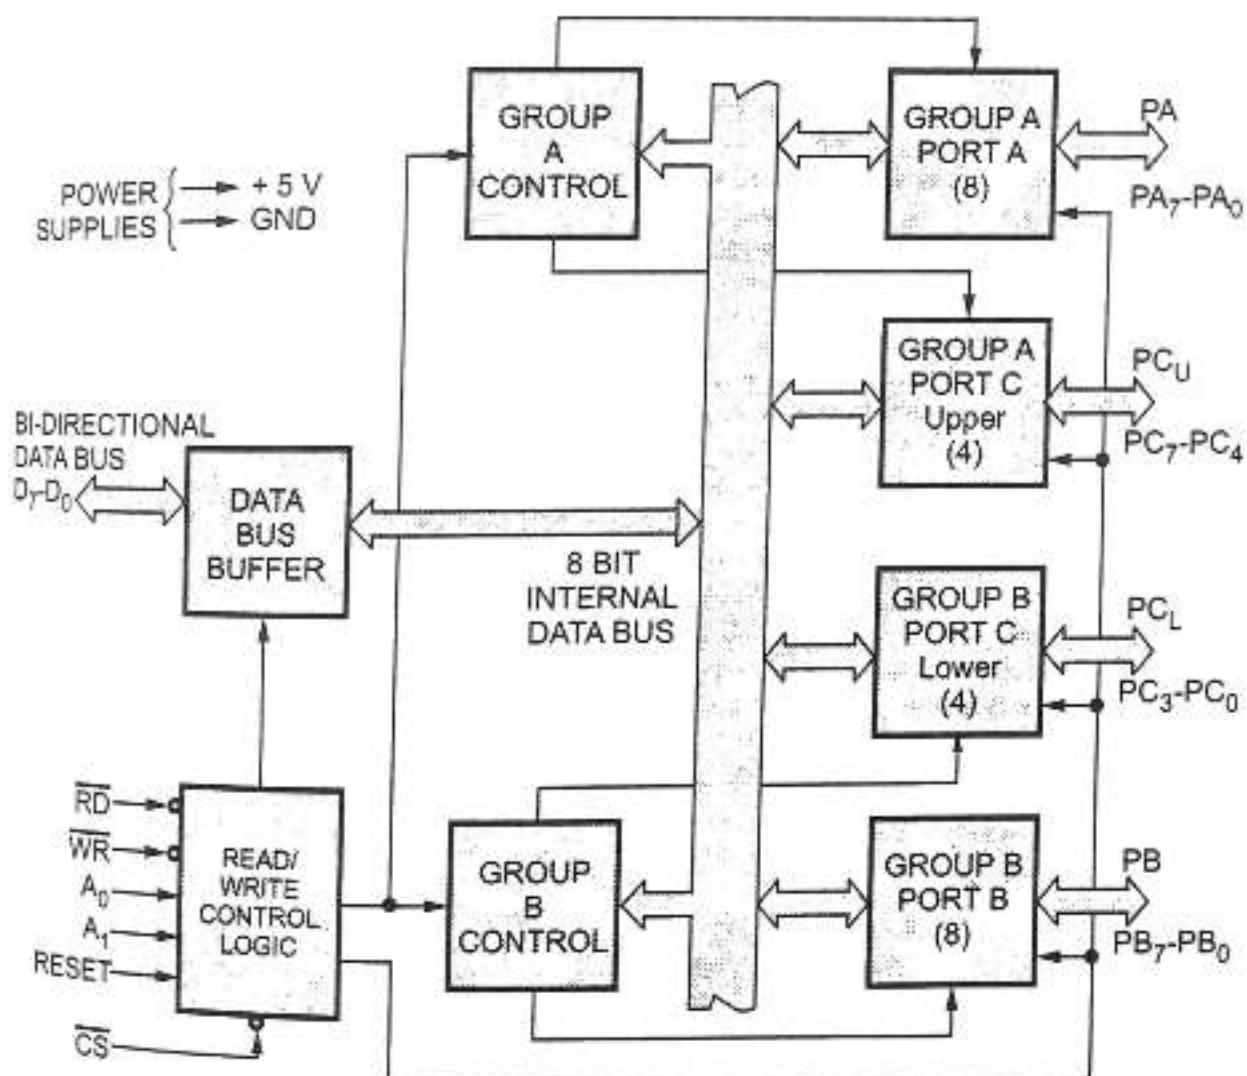

Fig. 3.4.2 Block diagram of 8255A
- Fig. 3.4.2 shows the internal block diagram of 8255A. It consists of data bus buffer, control logic and Group A and Group B controls.